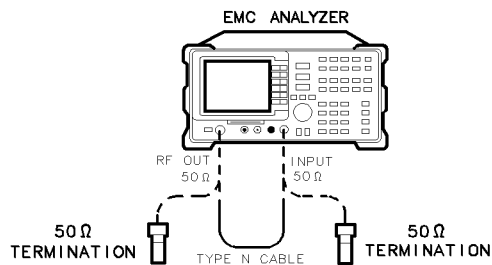

Figure 2-84. Tracking Generator Feedthrough Test Setup, HP 8594EM
1. Connect the Type N cable between the RF OUT 50 Ω and INPUT 50 Ω connectors on the EMC analyzer. See Figure 2-84.